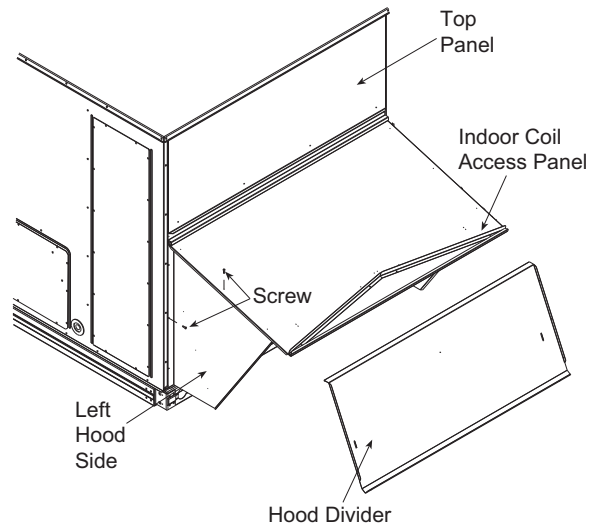

Fig. 13 — Economizer Hood Construction
2. Swing out indoor coil access panel and insert the hood sides under the panel (hood top). Be careful not to lift the panel too far, as it might fall out. Use the screws provided to attach the hood sides to the hood top. Use screws provided to attach the hood sides to the unit. See Fig. 13.
4. Insert the hood divider between the hood sides. See Fig. 13 and 14. Secure hood divider with 2 screws on each hood side. The hood divider is also used as the bottom filter rack for the aluminum filter.